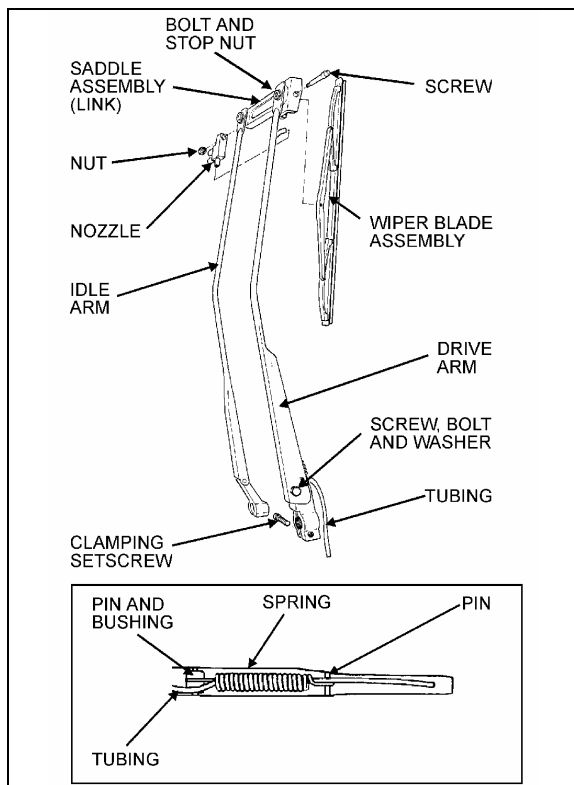
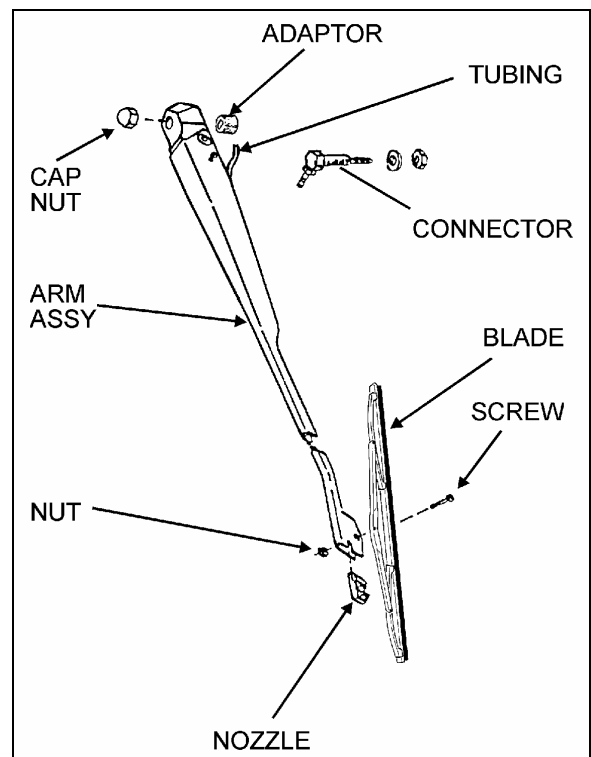

FIGURE 33: LOWER WINDSHIELD WIPER
FIGURE 34: UPPER WINDSHIELD WIPER
1. Remove the cap nuts from the wiper arm pivot shafts (Fig. 33 and 34);
2. Disconnect the windshield washer tubing at the base of the wiper arm (Fig 33 and 34);
3. Lower windshield wiper (Fig. 33): loosen the clamping set screw securing the drive arm to the knurled arm pivot shaft;
4. Remove the drive and idler arms (Fig. 33) or arm assembly (Fig. 34);
5. Relocate the drive arm (Fig. 33) or arm assembly (Fig. 34) on its knurled pivot shaft to obtain the desired position;
6. Lower windshield wiper (Fig. 33). Tighten the clamping set screw to secure the drive arm to the knurled shaft. Fit the idler arm onto the idler pivot shaft.
8. Connect the windshield washer tubing at the base of the wiper arm (Fig. 33 and 34);
9. Check the adjustment on a wet windshield (Fig. 33 and 34).
1. Remove the cap nuts from arms (Fig. 33 and 34);
2. Disconnect the windshield washer tubing at the base of the wiper arm (Fig. 33 and 34);
4. Lower windshield wiper (Fig. 33): loosen the clamping set screw on the base of the drive arm;
5. Remove the wiper arm assembly (Fig. 33 and 34).
1. Make sure the wiper motor is in the stop position. Lower windshield wiper (Fig. 33): position the wiper arm on the knurled drive shaft and idler arm on the pivot shaft. Upper windshield wiper (Fig. 34): position the wiper arm assembly on the knurled drive shaft;
4. Lower windshield wiper (Fig. 33): Tighten clamping nut onto the drive arm. Install cap nuts onto the arm shafts (Fig. 33 and 34);
5. Connect the windshield washer tubing at the base of the wiper arm (Fig. 33 and 34);
6. Check the adjustment on a wet windshield (Fig. 33 and 34).